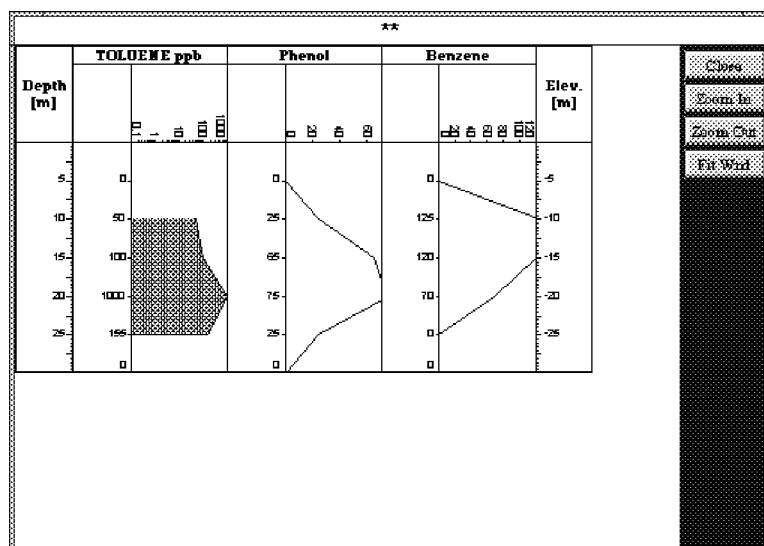

Figure 19-21
17. Select **Display** again. The screen looks as shown in Figure 19-21. Save this log design. Close the display. Select **Log design**, followed by **Save Log Design**. Type a name for this design.